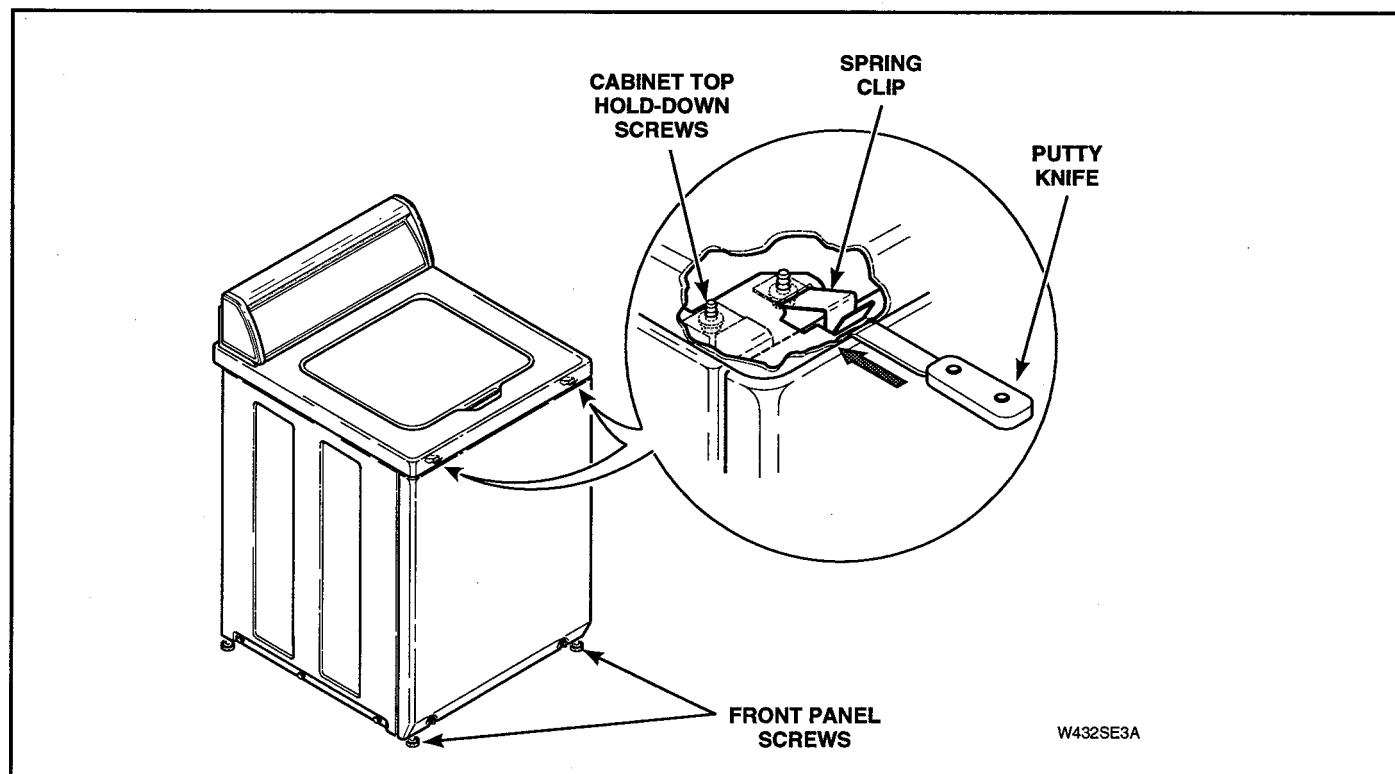

Figure 5-24
NOTE: Top edge of front panel is held in place by two spring clips located on bottom flange of cabinet top. See Figure 5-24.
- Insert putty knife between cabinet top and top edge of front panel (approximately three inches in from side). See Figure 5-24.
- Remove two cabinet top hold-down screws. See Figure 5-24.